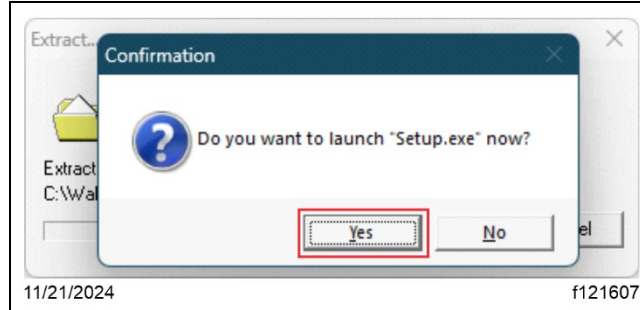

Fig. 31, Launching the Setup.exe File
7.3. Once the extraction is complete, a 'Confirmation' window pops up asking to launch the 'Setup.exe;' select 'Yes.' See Fig. 31.